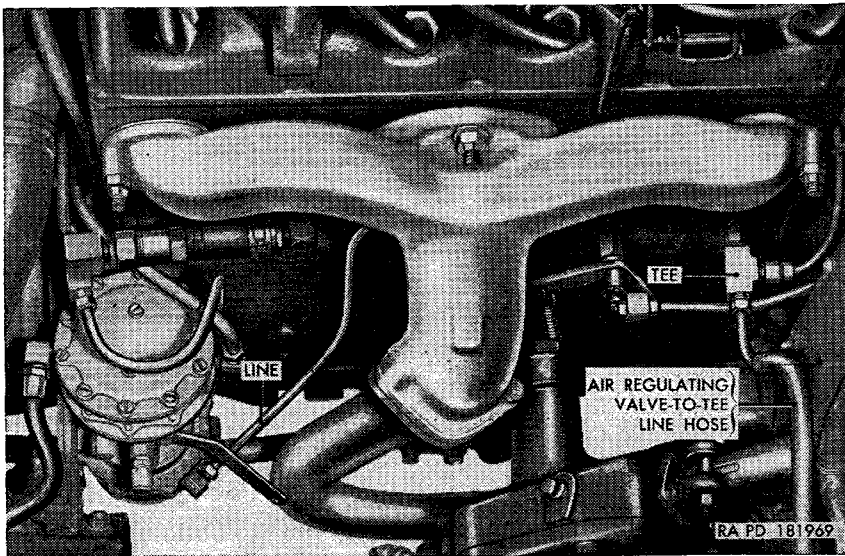

Figure 188. Vacuum pump-to-tee line—installed.
ulating valve-to-distributor tee line hose off the tee-to-windshield wiper line installed on the tee mounted on the vacuum pump-to-tee line (fig. 188). Remove the internal-teeth lockwasher screw securing the windshield wiper hose-to-cowl clip to the dash panel. Remove the air regulating valve-to-distributor tee line hose by pulling it through the instrument panel, glove compartment, dash panel, and clip. Remove the two internal-teeth lockwasher screws securing the windshield wiper air regulating valve (N) to the windshield frame and remove the valve. Remove two windshield wiper hose bushings (R) from the instrument panel and body cowl.
(b) *Installation.* Place the windshield wiper air regulating valve (N) in position, with extensions horizontal and lever pointing down, at the bottom of the windshield frame. Secure the valve to frame with two No. 10-24NC-2 x $\frac{7}{16}$ internal-teeth lockwasher screws. Insert a $\frac{13}{32}$ -inch diameter windshield wiper hose bushing into the wiper line hole in the body cowl. Insert a $\frac{11}{16}$ -inch diameter windshield wiper hose bushing (R) into the wiper line hole in the instrument panel. Insert one end of the windshield wiper air regulating valve-to-tee line hose (M) through the instrument panel, glove compartment, and dash panel until it enters the engine compartment. Slide the windshield wiper hose-to-cowl clip onto the lower end of the hose. Slide the lower end of the hose onto the tee-to-windshield wiper line installed on the tee mounted on the vacuum pump-to-tee line (fig. 188). Secure the clip to the dash panel with one No. 10-24NF-2 x $\frac{7}{16}$ internal-teeth lockwasher screw. Slide the end of the hose that is in the driver's compartment onto the right extension on the air regulating valve. Slide one end of the windshield wiper air regulating valve-to-left line hose (Q) onto the left extension on the air regulating valve. Slide the other end of the hose onto the lower end of the windshield wiper left line (A). Lower the hood and lock in closed position (par. 255b).
- (1) *Removal.* Raise the hood and lock in raised position (par. 255a). Unscrew the fitting on the vacuum pump-to-tee line (fig. 188) from the elbow at the bottom of the fuel and vacuum pump. Remove the safety nut securing the clip on the line to the lower right stud used to mount the exhaust manifold. Pull the clip off the stud. Unscrew the fitting on the line from the tee that is also mounted on the distributor-to-windshield wiper fitting vent line. Remove the line from the engine compartment. Slide the clip off the line.
- (2) *Installation.* Slide the clip onto the vacuum pump-to-tee line (fig. 188). Position the line within the engine compartment. Connect the fitting on the upper end of the line to the tee mounted on the distributor-to-windshield wiper fitting vent line. Install the clip on the lower right stud securing the exhaust manifold. Install one $\frac{3}{8}$ -inch self-locking nut on the stud and tighten nut to a torque of 29-35 pound-feet. Connect the fitting at the lower end of the line to the elbow at the bottom of the fuel and vacuum pump. Lower hood and lock in closed position (par. 255b).